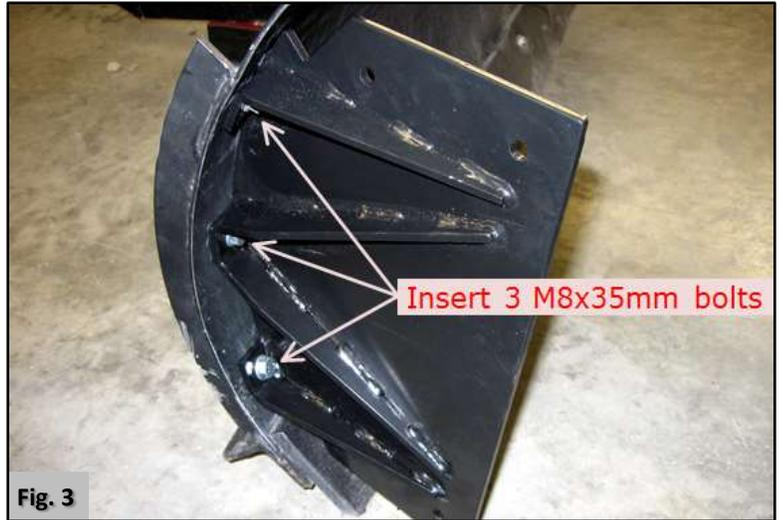

Fig. 3
6. Position the Wing Plate over the drilled holes with the flat side facing towards the center of the plow and insert three 35mm bolts each through the Wing Plate, the plow blade, through a washer, a lock washer, and thread loosely into a nylock nut. (Fig. 3)